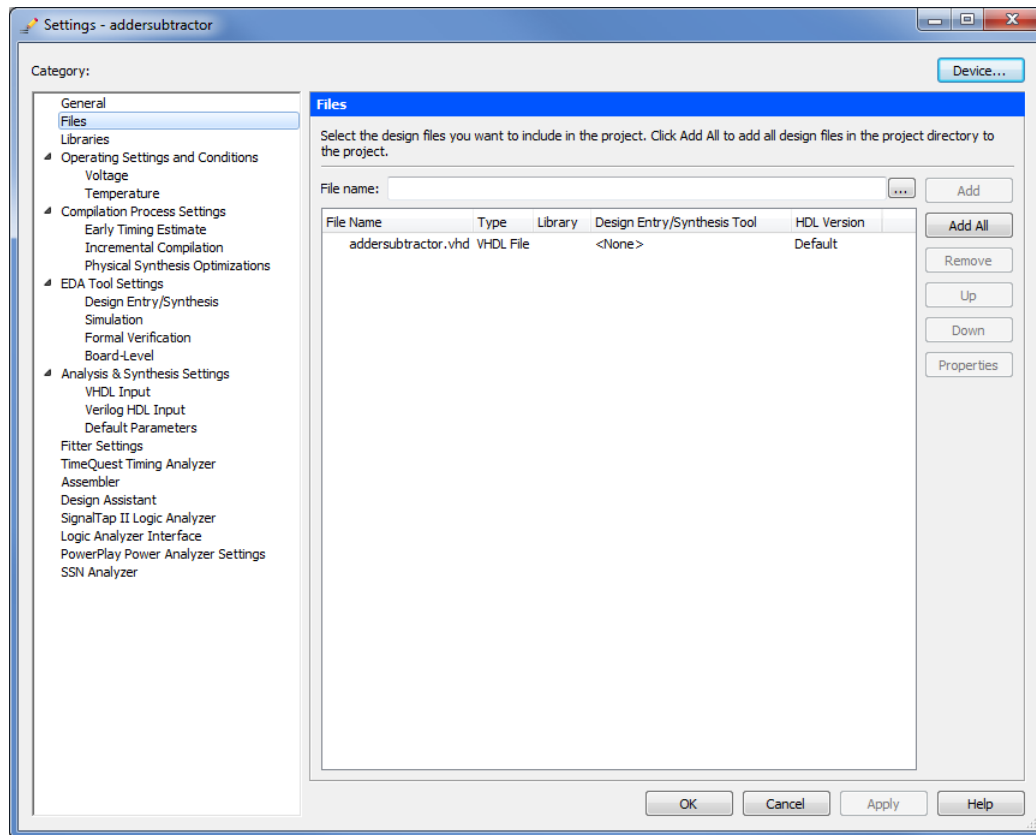
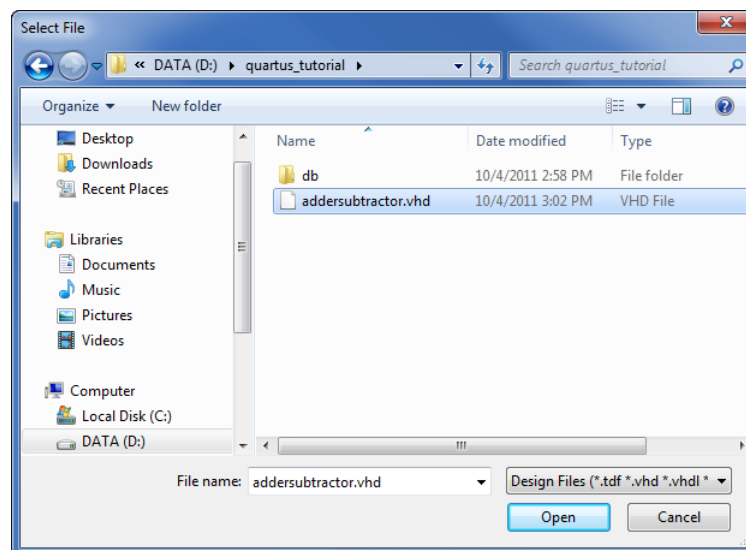

Figure 17: Settings window.
Figure 18: Select the file.
As we indicated when discussing Figure 6, you can tell the Quartus® II software which design files it should use as part of the current project. To see the list of files already included in the *addersubtractor* project, select **Assignments > Settings... > Files**, which leads to a window similar to the window in Figure 17. An alternative way of making this selection is to go to **Project > Add/Remove Files in Project...**
If you used the Quartus® II Text Editor to create the file and checked the box labeled **Add file to current project**, as described in Section 3.1, then the *addersubtractor.vhd* file is already a part of the project and will be listed in the window in Figure 17. Otherwise, the file must be added to the project.
2. To add this file to the project, click on the ... button beside the File name field in Figure 17 to get the pop-up window in Figure 18.
field of Figure 17. Click **Add** and then **OK** to include the *addersubtractor.vhd* file in the project.